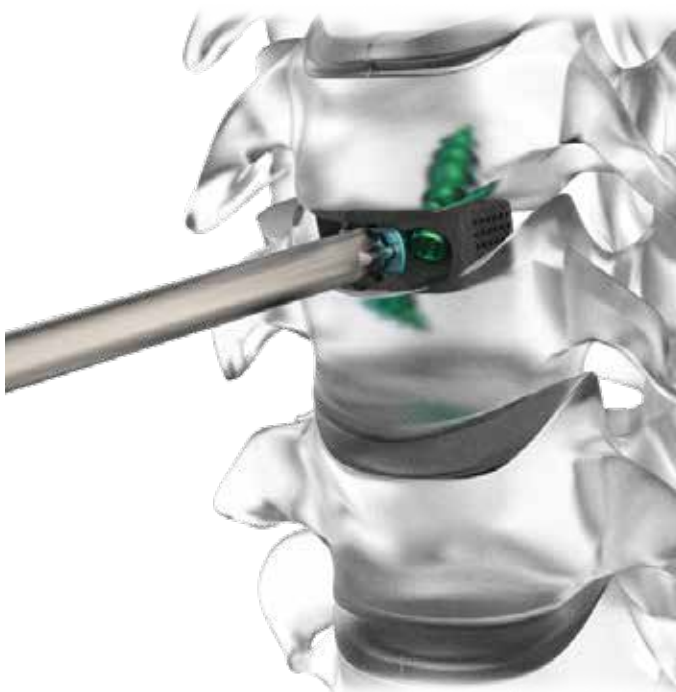

Figure 12
- Rotate Lock Tool 90° clockwise. The Integrated Turn Lock will encounter a positive stop with the Cage confirming it has reached the locked position (Figure 12).